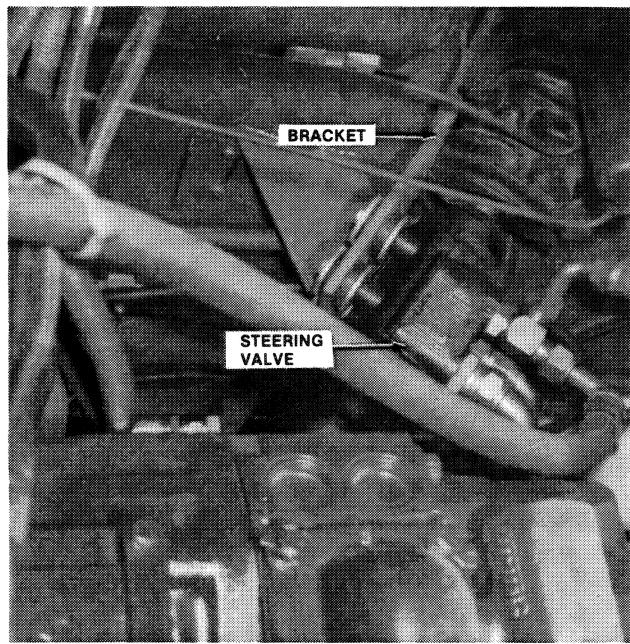

FIGURE 2-7: Steering Valve Removal
35. Remove one capscrew from steering valve shaft (Figure 2-7). Loosen four capscrews and remove steering valve from bracket. Tie valve to frame away from engine.